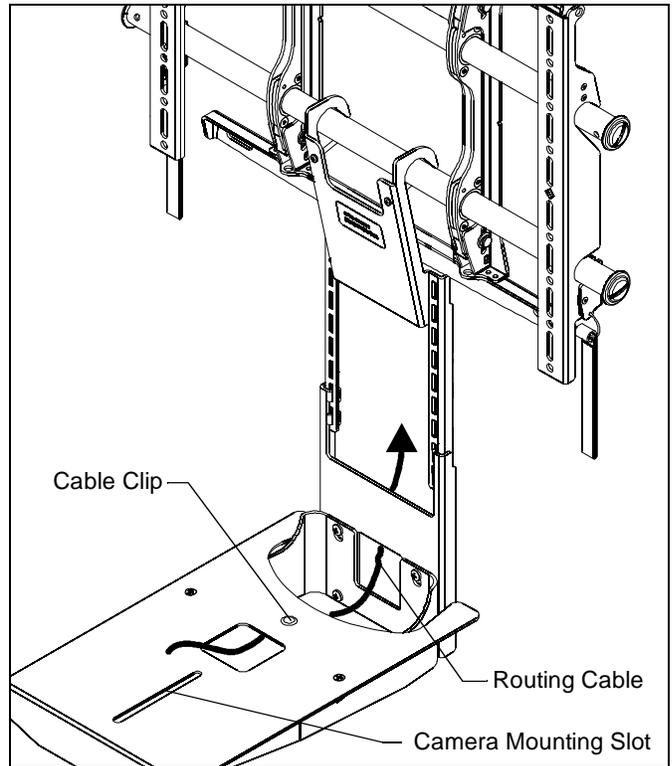

Figure 6
NOTE: If camera has a bottom mounting screw, attach it through the mounting slot in the shelf. (See Figure 6)
2. Route cable from camera. (See Figure 6)
NOTE: Cable may be routed using the cable clip on the underside of the shelf. Secure the cable at the cable clip with a wire tie (not included). (See Figure 6)